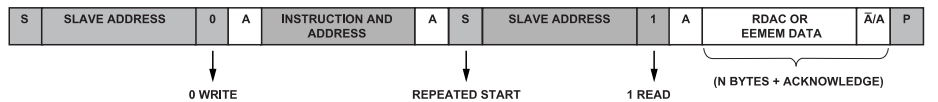

Figure 30. RDAC or EEMEM Random Read
Figure 30 illustrates a random RDAC or EEMEM read operation. This operation allows users to specify which RDAC or EEMEM register is read by issuing a dummy write command to change the RDAC address pointer and then proceeding with the RDAC read operation at the new address location.
3. In current read mode, the RDAC1 data byte immediately follows the acknowledgment of the slave address byte. After an acknowledgment, a dummy read follows, then RDAC3, and so on. (There is a slight difference in write mode, where the last eight data bits representing RDAC3 data are followed by a no acknowledge bit.) Similarly, the transitions on the SDA line must occur during the low period of SCL and remain stable during the high period of SCL (see Figure 34). Another reading method, random read method, is shown in Figure 30.